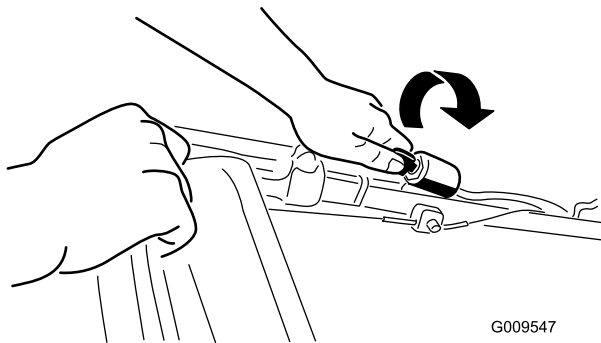
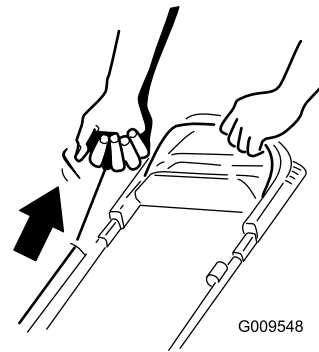

Figure 14
Figure 15
2. Turn the ignition key (Figure 14) (electric-start models only) or pull the recoil start handle (Figure 15).
Note: When you pull the recoil start handle, pull it lightly until you feel resistance, then pull it sharply (Figure 15). Allow the rope to return to the handle slowly.